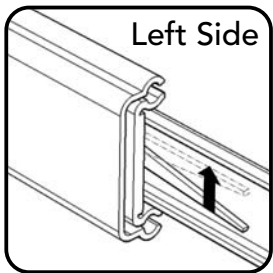

Figure 7
Note: To remove Drawers (G) in future, push plastic lever on left side up, push plastic lever on right side down and pull open. (See Figures 7 and 8)